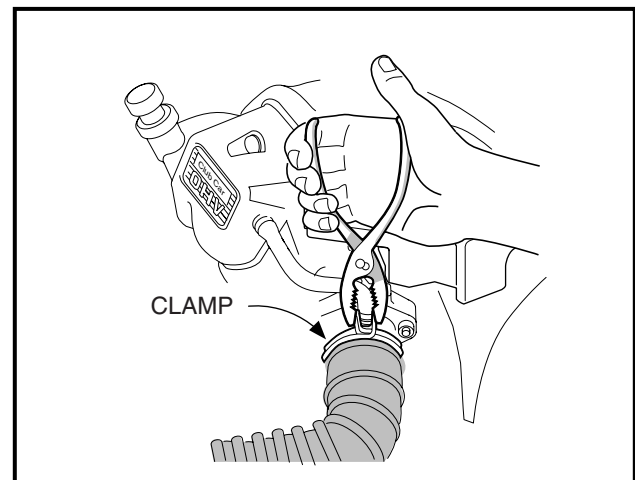

Figure 16-57 Air Intake Hose
31. Connect air intake hose to carburetor and secure with hose clamp (**Figure 16-57, Page 16-22**).